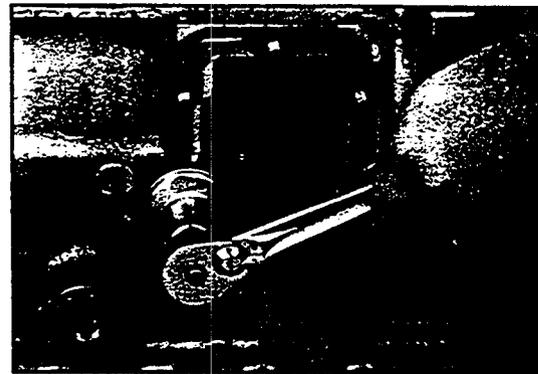

Fig. 3
3. Install the proper studs in the P.T.O. aperture pad using a stud driver or wrench. (See Fig. 3.)